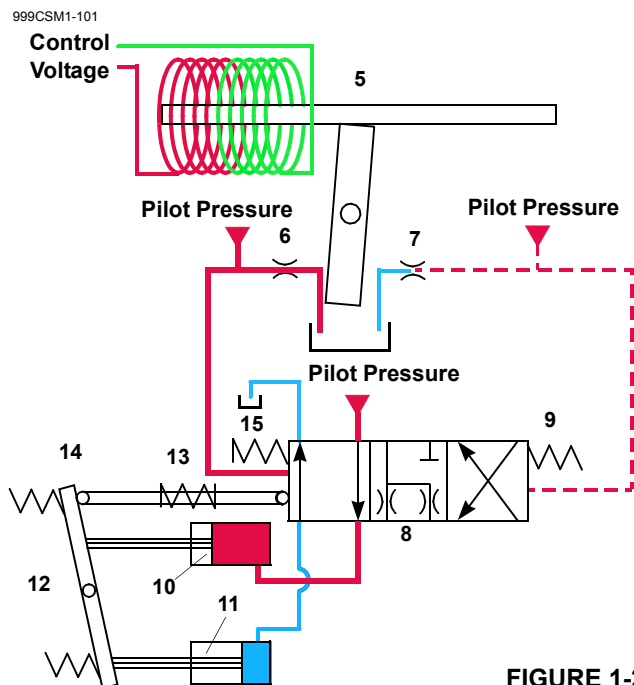

FIGURE 1-2
When a control handle is moved from neutral, the PC sends a positive or negative output signal to system pump external EDC. This current signal magnetizes armature (5, Figure 1-2) and starts to block orifice port (6) or (7), depending on current polarity. Blockage of flow at exhaust side of orifice port (6) in this example causes a pressure difference across spool (8). This pressure difference overcomes the resistance of spring (9) and moves the spool proportionally to pressurize servo control cylinder (10).